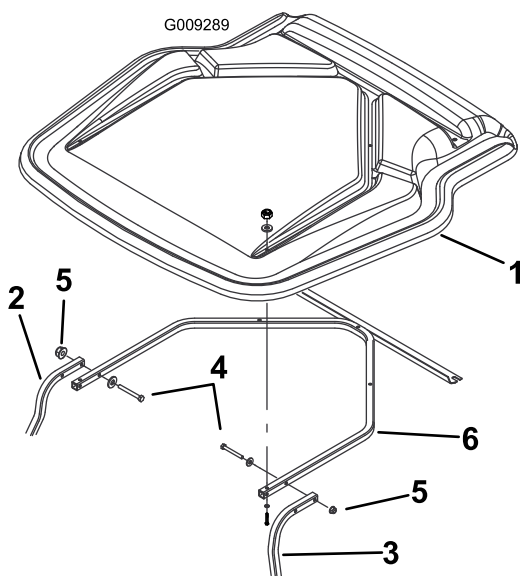

Figure 6
10. Lift the canopy onto the support frame, and loosely install the canopy to the front supports using 4 screws (5/16 x 2-3/4 inches), 4 flat washers (5/16 inch), and 4 flange nuts (5/16 inch) as shown in Figure 6.
Note: The canopy support is already loosely installed to the canopy (Figure 6).